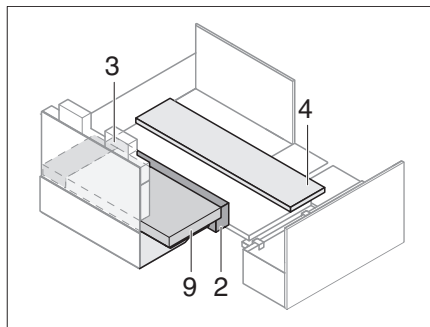

Fig. 218 Positioning additional cushion
- Position the additional cushion (Fig. 218). The distance results from the insertable cushion.
- Insert the seat cushion and seat extensions. Place the back cushions (Fig. 218,9) on the additional cushion.